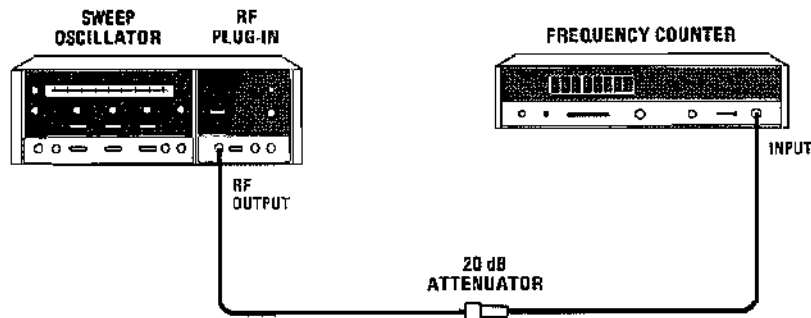

Figure 4-1. CW and Manual Sweep Accuracy Test Setup.
Equipment listed is for two test setups (Figures 4-1 and 4-2).
- a. Connect equipment as shown in Figure 4-1.